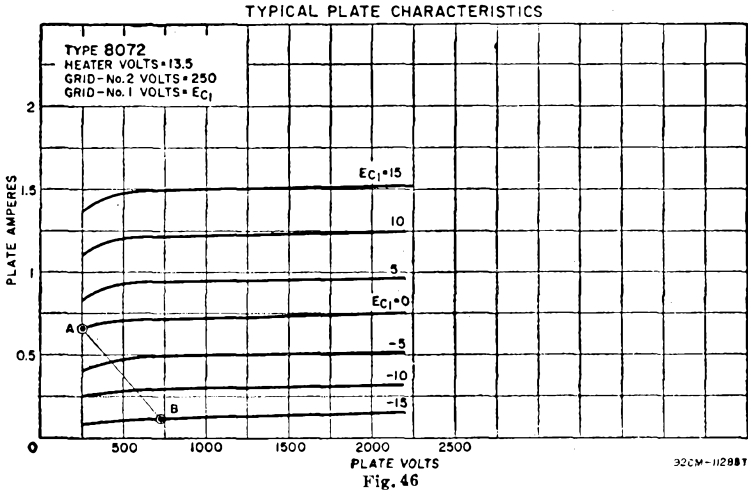
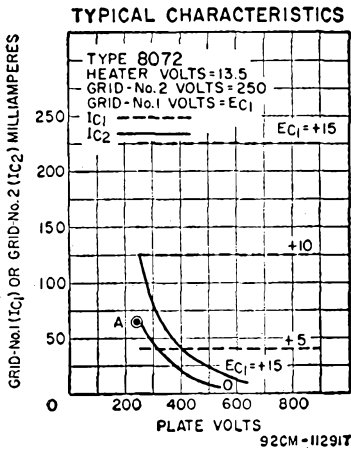

Fig. 46
Fig. 47
The operating conditions for a class AB1 linear rf amplifier used in single-sideband service can be estimated from the load line plotted on a set of plate characteristics. The typical plate and grid-No.2 characteristic curves shown in Figs. 46 and 47 are used in the following
(3) Select a value of zero-signal plate current ( $I_{b0}$ ) between 1/6 and 1/10 of  $I_{bmax}$  found in (2). Locate  $I_{b0}$  at selected  $E_b$  and construct a load line to the point found in (2). In general, the
- (5) Determine the grid-No.1 bias ( $E_{c1}$ ) from graph at the point of zero signal found in (3).
(6) DC plate current at peak of envelope ( $I_{be}$ ) is approximately equal to  $I_{bmax}/3$ .
(7) Average dc plate current ( $I_b$ ) is equal to  $I_{be}/1.4$ .
(8) Determine peak grid-No.2 current ( $I_{c2max}$ ) from Fig. 47 at conditions in (2).
(9) DC grid-No.2 current at peak of envelope ( $I_{c2e}$ ) is approximately equal to  $I_{c2max}/4$ .
(10) Average grid-No.2 current ( $I_{c2}$ ) is approximately equal to  $I_{c2e}/1.4$ .
(11) Average grid-No.2 dissipation ( $P_{c2}$ ) is approximately equal to  $E_{c2} \times I_{c2}$ .
(12) Peak Envelope Power input ( $P_{Ine}$ ) is equal to  $E_b \times I_{be}$ .
(13) Peak Envelope Power output (PEP) is equal to  $(I_{bmax}/4) (E_b - E_{bmin})$ .
(14) Average Plate Dissipation ( $P_p$ ) is equal to  $0.7 P_{Ine} - 0.5 PEP$ .
(15) Average Power Output ( $P_o$ ) is equal to  $PEP/2$ .
(16) Effective rf load resistance ( $R_p$ ) is equal to  $2(E_b - E_{bmin})/I_{b0}$ .
(1) The plate voltage is selected to be 700 volts; grid-No.2 voltage, 250 volts.
(2) On Fig. 46 plot the maximum-signal point at knee of  $E_{c1} = 0$  curve (point A). Read  $I_{b_{max}} = 0.65$  ampere. Locate  $E_{b_{min}}$  at 250 volts.
(4) On Fig. 46 plot the minimum-signal point at  $E_b = 700$  volts and  $I_{b_0} = 0.10$  ampere (point B).
(5) On Fig. 46 read  $E_{c1}$  at -15 volts at minimum-signal point B.
(6) Calculate:  $I_{b_e} = I_{b_{max}}/3 = 0.650/3 = 0.22$  ampere.
(7) Calculate:  $I_b = I_{b_e}/1.4 = 0.22/1.4 = 0.16$  ampere.
(8) On Fig. 47 locate point A at  $E_b = 250$  volts and  $E_{c1} > 0$  on grid-No.2 current curves. Read  $I_{c_{2max}} = 0.065$  ampere.
(9) Calculate:  $I_{c_{2e}} = I_{c_{2max}}/4 = 0.065/4 = 0.016$  ampere.
(10) Calculate:  $I_{c_2} = I_{c_{2e}}/1.4 = 0.016/1.4 = 0.011$  ampere.
(11) Calculate:  $P_{c_2} = E_{c_2} \times I_{c_2} = 250 \times 0.011 = 2.7$  watts. Verify that grid-No.2 dissipation is within rating.
(12) Calculate:  $P_{in_e} = E_b I_{b_e} = 700 \times 0.22 = 154$  watts.
(13) Calculate:  $PEP = (I_{b_{max}}/4)(E_b - E_{b_{min}}) = (0.650/4)(700 - 250) = 73$  watts.
(14) Calculate:  $P_D = 0.7 P_{in_e} - 0.5 PEP = 0.7(154) - 0.5(73) = 71$  watts.
(15) Calculate:  $P_0 = PEP/2 = 73/2 = 36.5$  watts.
(16) Calculate:  $R_D = 2(E_b - E_{b_{min}})/I_{b_{max}} = 2(700-250)/0.65 = 1384$  ohms.